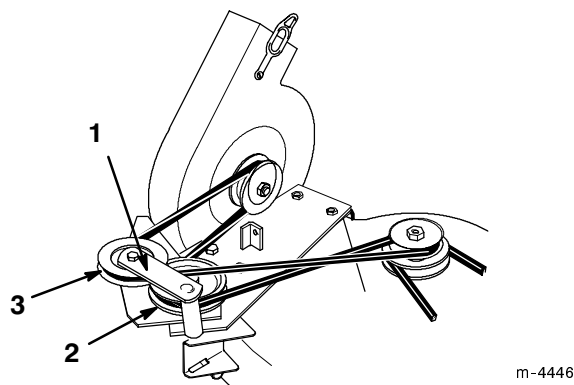

Figure 11
3. Open the latch and swing the blower out away from the mower, install the blower belt around the idler and blower pulleys as shown (Fig. 11). Install the other end of the belt over the blower drive pulley on the mower spindle.